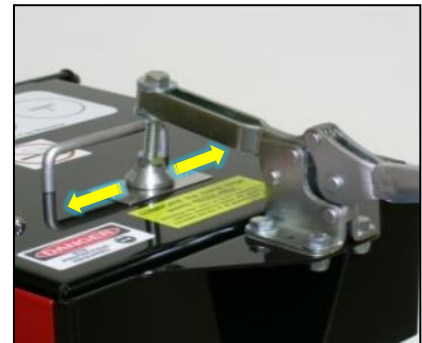

FIGURE 2
4. Lower the operating handle so that the swivel foot is centered side-to-side on the lid striker plate. Now tighten all nuts and bolts of the operating handle assembly to the mounting plate. (Figure 2)